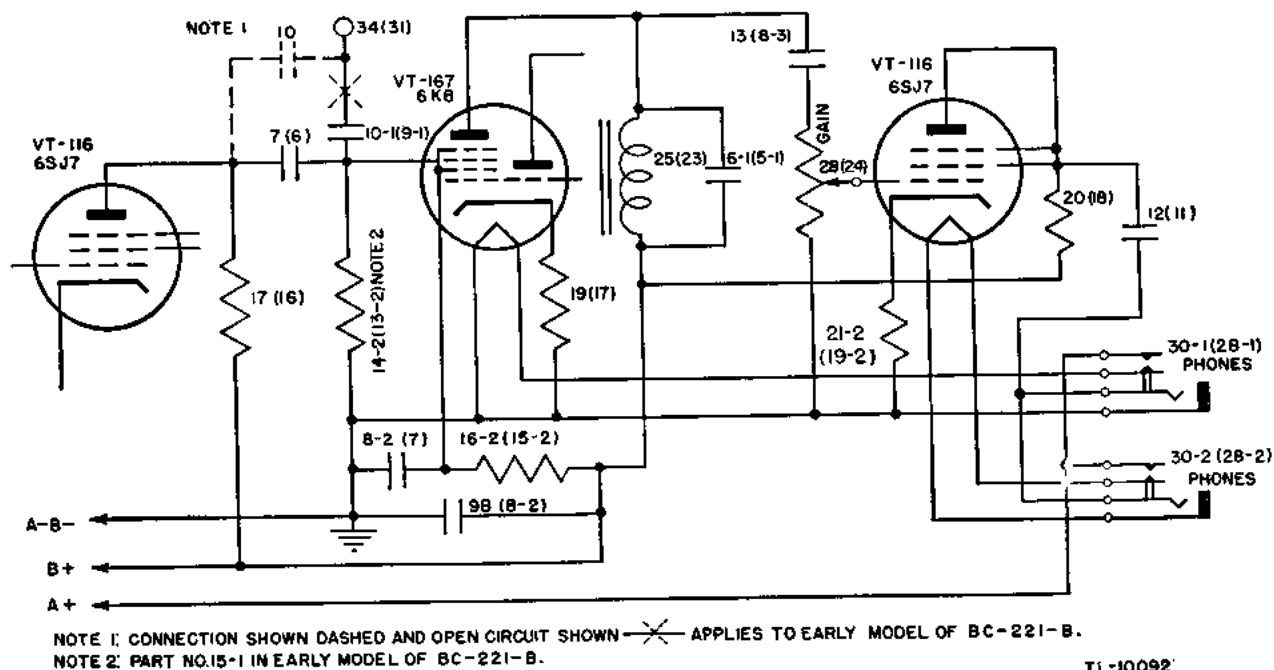

Figure 39. Frequency Meter BC-221-(2), functional diagram, detector and audio-amplifier circuits.
trol grid of the triode section, is used as a high gain screen grid detector with hexode grid No. 3 acting as the control grid. The joint action of grids No. 1 and 3 produces electron coupling of the signals on the two grids. (See fig. 39.) Resistor 14-2 (13-2), part No. 15-1 in the early model of the BC-221-B, is the detector tube grid leak. Resistor 16-2 (15-2) supplies voltage to the screen grid of Tube VT-167 (6K8). Capacitor 8-2 (7) bypasses the screen grid to ground. Capacitor 9b (8-2) is a bypass capacitance across the plate voltage. The r-f voltage developed across the load resistor 17 (16) in the